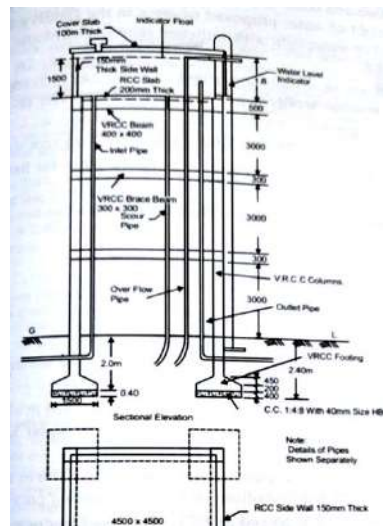

Fig.7
- B) Calculate the following quantities of an R.C.C overhead tank shown in the fig.7